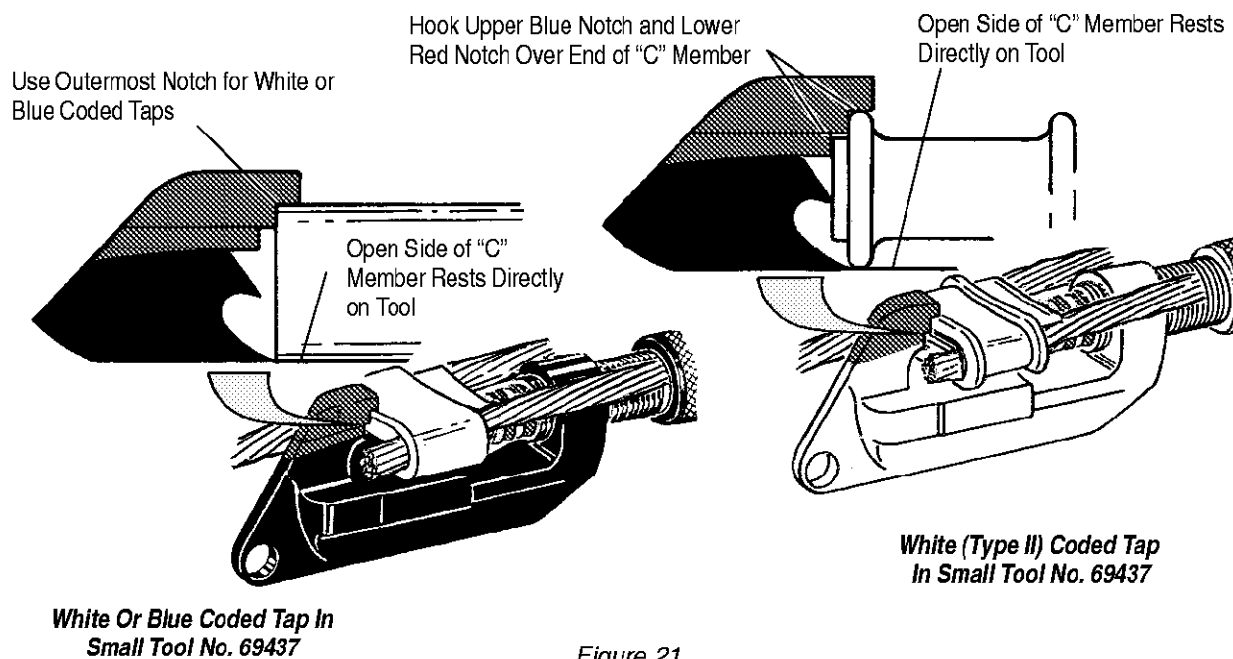

Figure 21
- WHITE coded Type II tap or stirrup must be positioned by hooking upper blue notch and lower red notch over end of “C” member as shown in Figure 21.
- BLUE and WHITE coded taps or stirrups must be positioned in outermost blue notch as shown in Figure 21.